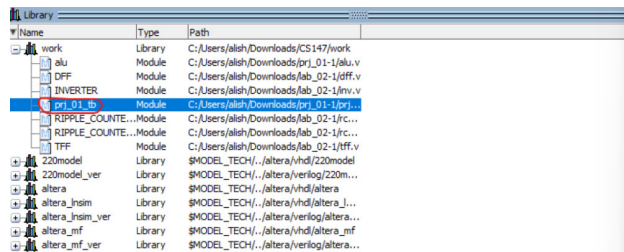
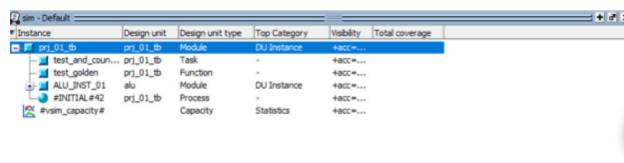

Fig. II.6. Code run Testbench
Fig. II.7. sim-Default Window
- Next, click on the 'Library' tab located on the bottom left of the screen. Click 'work' and then navigate to 'prj\_01\_tb.v' and double click as shown in Figure II.6 below, and then a 'sim-Default' window will be shown like in Figure II.7 below.